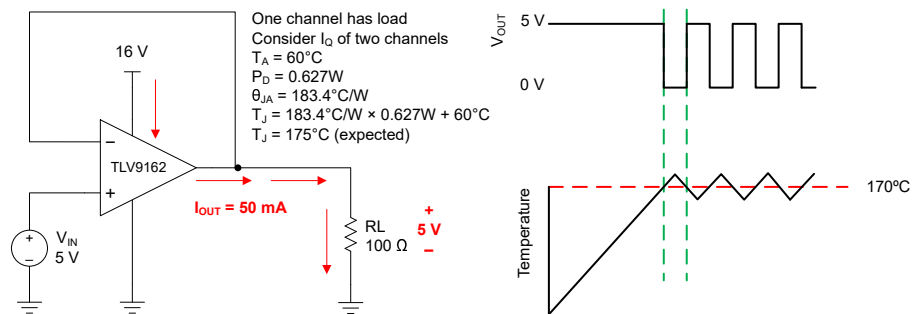

Figure 6-4. Thermal Protection
The internal power dissipation of any amplifier causes its internal (junction) temperature to rise. This phenomenon is called *self heating*. The absolute maximum junction temperature of the TLV916x-Q1 is 150°C. Exceeding this temperature causes damage to the device. The TLV916x-Q1 has a thermal protection feature that reduces damage from self heating. The protection works by monitoring the temperature of the device and turning off the op amp output drive for temperatures above 170°C. Figure 6-4 shows an application example for the TLV9162-Q1 that has significant self heating because of its power dissipation (0.627W). In this example, both channels have a quiescent power dissipation while one of the channels has a significant load. Thermal calculations indicate that for an ambient temperature of 60°C, the device junction temperature reaches 175°C. The actual device, however, turns off the output drive to recover towards a safe junction temperature. Figure 6-4 shows how the circuit behaves during thermal protection. During normal operation, the device acts as a buffer so the output is 5V. When self heating causes the device junction temperature to increase above the internal limit, the thermal protection forces the output to a high-impedance state and the output is pulled to ground through resistor R_L . If the condition that caused excessive power dissipation is not removed, the amplifier will oscillate between a shutdown and enabled state until the output fault is corrected. Please note that thermal performance can vary greatly depending on the package selected and the PCB layout design. This example uses the thermal performance of the TSSOP (8) package.